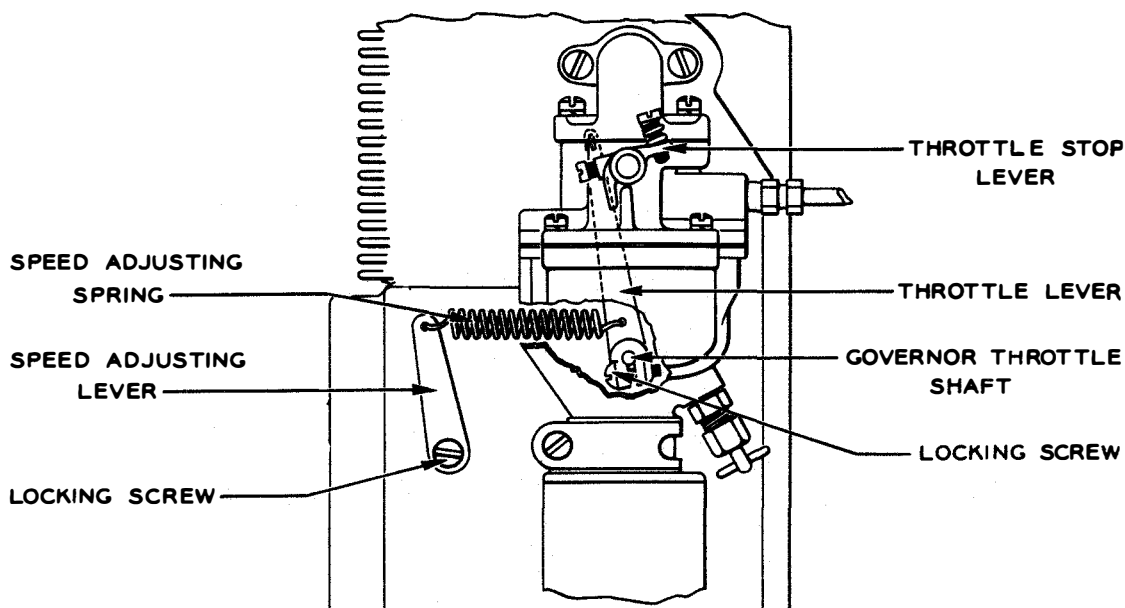

Figure 7-48. Governor Linkage
(6) GOVERNOR ADJUSTMENT. — Engine speed is automatically maintained by a flyball governor. Rotation of the crankshaft swings small weights which produce movement of the carburetor throttle valve in accordance with engine speed changes. The governor is carefully adjusted at the factory for normal engine speed under rated load. If a change in controlled engine speed is desired, the spring tension can be altered by resetting the spring tension lever on the engine base. Make certain the adjusting lever screw is securely tightened after adjustment. Figure 7-48, showing the governor linkage to the throttle, indicates the location of all parts.
Install the governor control shaft assembly. Place the throttle lever on the control rod, and pull out the shaft as far as it will go, allowing a little clearance between the lever and bearing. Hook the spring into the throttle lever. Using a pair of pliers, turn the control shaft to the left as far as it will go and fasten the lever screw tightly. Reference to Figure 7-48 will make this operation clear.